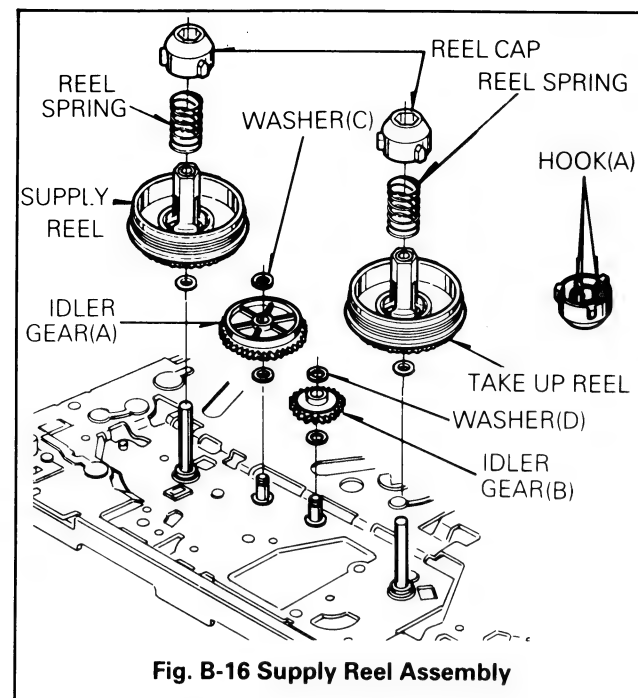

Fig. B-16 Supply Reel Assembly
16. Supply Reel Assembly(Fig. B-16)
17. Idler Gear(A), (B)(Fig. B-16)